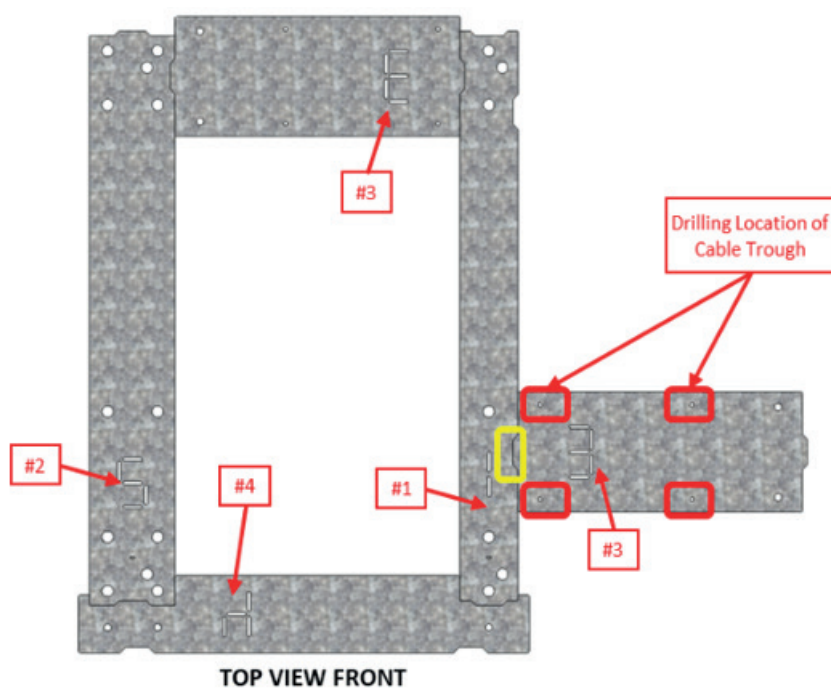

Figure 52. C-Cab XXL Positioning with Cable Trough Positioning Drilling Location
To prepare the mounting locations of the cabinets as shown in the outline drawing (refer to Figure 52), follow these steps:
3. **Position Next Template:** Find the second #3 template and position the template in the notch beside the #1, as shown in yellow in Figure 52.